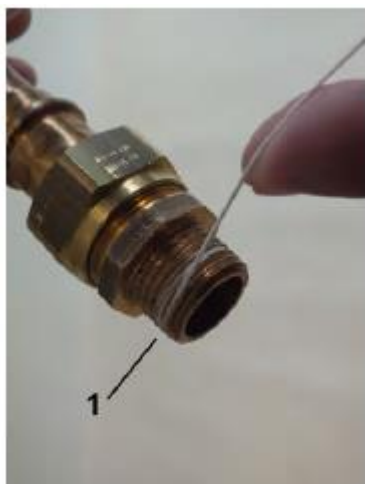

Fig. 10: Apply sealing thread
2. ► Apply sealing thread (Fig. 10/1) to the napped thread in the threaded direction. Observe the quantity recommended by the sealant manufacturer.